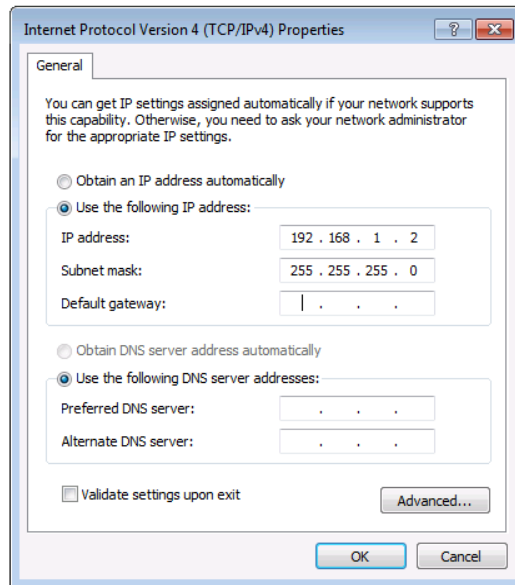

Figure 15: Internet Protocol Properties Window
6. Select **Use the following IP Address** for static IP addressing and fill in the details as shown in Figure 15.